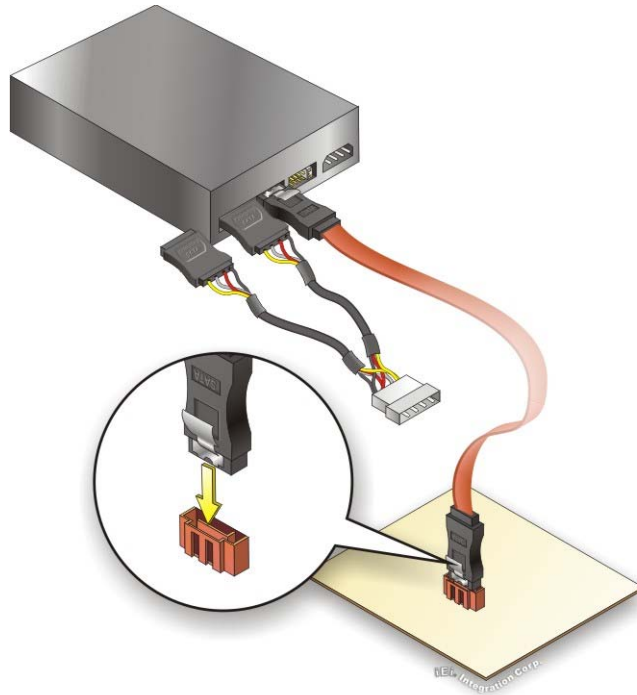

Figure 4-21: SATA Power Drive Connection
Step 3: **Connect the cable to the SATA disk.** Connect the connector on the other end of the cable to the connector at the back of the SATA drive. See **Figure 4-21**.
Step 4: Connect the **SATA power cable (optional)**. Connect the SATA power connector to the back of the SATA drive. See **Figure 4-21**.